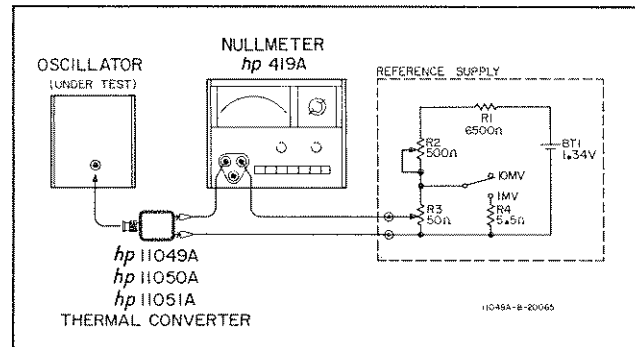

Figure 4. Frequency Response Measurements
11. The accuracy and sensitivity of thermal converter measurements are dependent on the accuracy and resolution of the output measuring circuit. Figure 4 shows a very stable and sensitive output monitor circuit. With this circuit, an output change of  $1.5 \mu\text{V}$ , or  $0.01\%$  of full scale, can easily be resolved. The
12. To build the reference supply shown in Figure 4 on the next page, use a mercury battery and wirewound resistor. The potentiometers should be 10 turn or 20 turn, and the switch should have low thermal contacts. After constructing the reference supply, place it in a shielded container and allow the mercury battery to age in the circuit for about a week. The longer the battery is allowed to age, the better its short term stability will be.
15. Figure 4 on the next page shows a test setup for making simple but accurate frequency response measurements. The following steps describe the measurement.
- b. Connect null meter, reference supply, and thermal converter as shown in Figure 4. Keep cables connecting oscillator and thermal converter as short as possible.